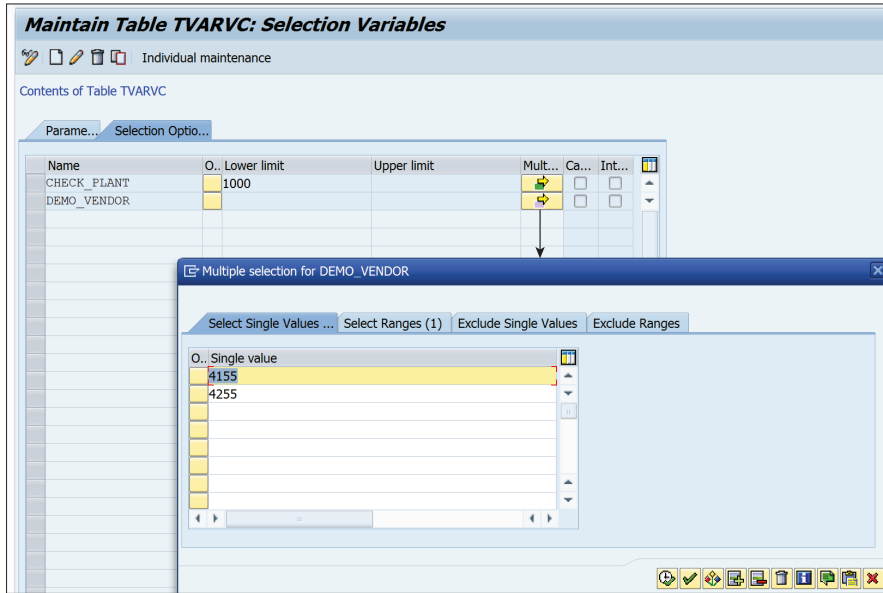

Figure 14.8 Creating Variant in Transaction STVARV
3. Enter a name for the variant in the PARAMETERS or SELECT OPTIONS tab (depending on the screen field) and maintain the values (see Figure 14.8).